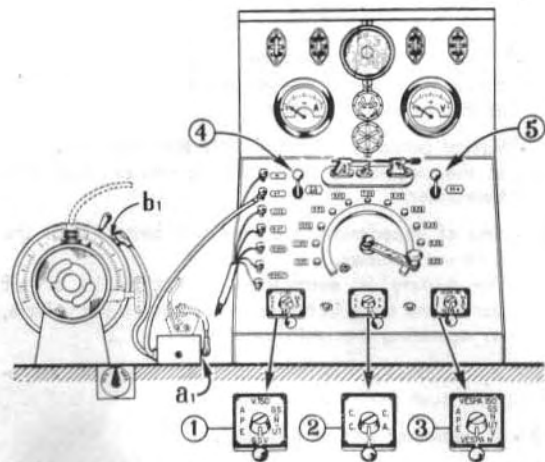

Fig. 14 • Flywheel magneto test stand
The flywheel magneto test stand 8290/R (see Fig. 14) consists of the following units:
- h) - 3 main switches 1-2-3 of Fig. 14), each showing the specific position for the different flywheel magnetoes to be tested.
- i) - 2 switches (4 and 5 in Fig. 14), with two positions, for Vespa Commercial (Ape) and Vespa G.S. having battery coil ignition.
- Lead from the coil must be connected to clamp « a₁ » (see Fig. 14).